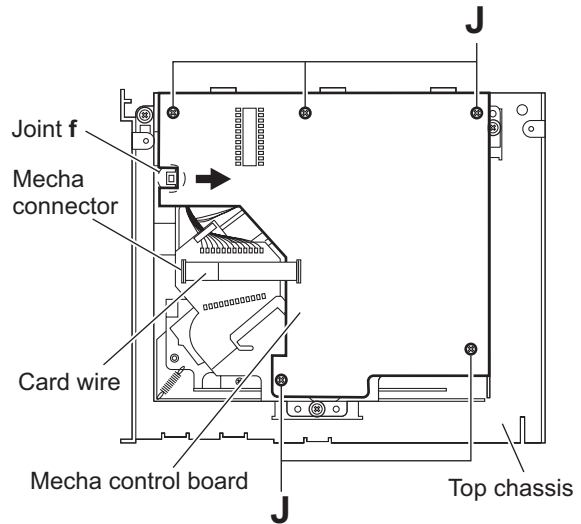

Fig.8
2.1.7 Removing the mecha control board (See Fig.8)